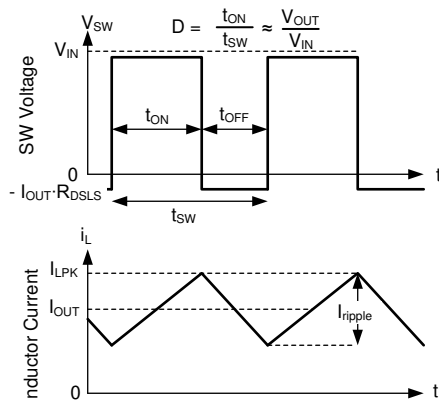

図 7-18. SW Voltage and Inductor Current Waveforms in Continuous Conduction Mode (CCM)
The following operating description of the LMQ644xx refers to Functional Block Diagram and the waveforms in 図 7-18. Both supply a regulated output voltage by turning on the internal high-side (HS) and low-side (LS) NMOS switches with varying duty cycle (D). During the HS switch on-time, the SW terminal voltage, V_{SW} , swings up to approximately V_{IN} , and the inductor current, i_L , increases with a linear slope. The HS switch is turned off by